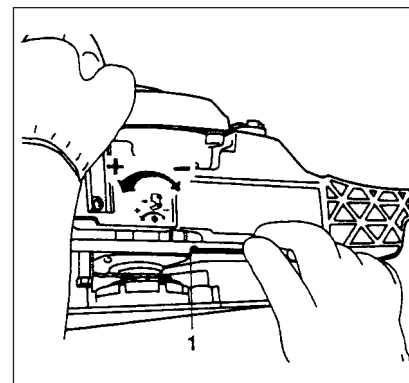

Fig. 2-1C
The chain oil quantity discharged through the lubrication system is factory adjusted to the maximum. Adjust the quantity in accordance with the operating condition. Turn the adjusting screw (1) counterclockwise to decrease the quantity and turn it clockwise to increase the quantity. (Fig. 2-1C)